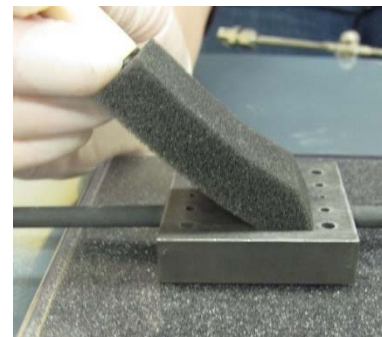

Figure 18
- Apply approximately 0.5 grams of LSC ink in a thin even coat on the active area of the cathode manifold (Figure 18). Do not apply ink to the gas ports.